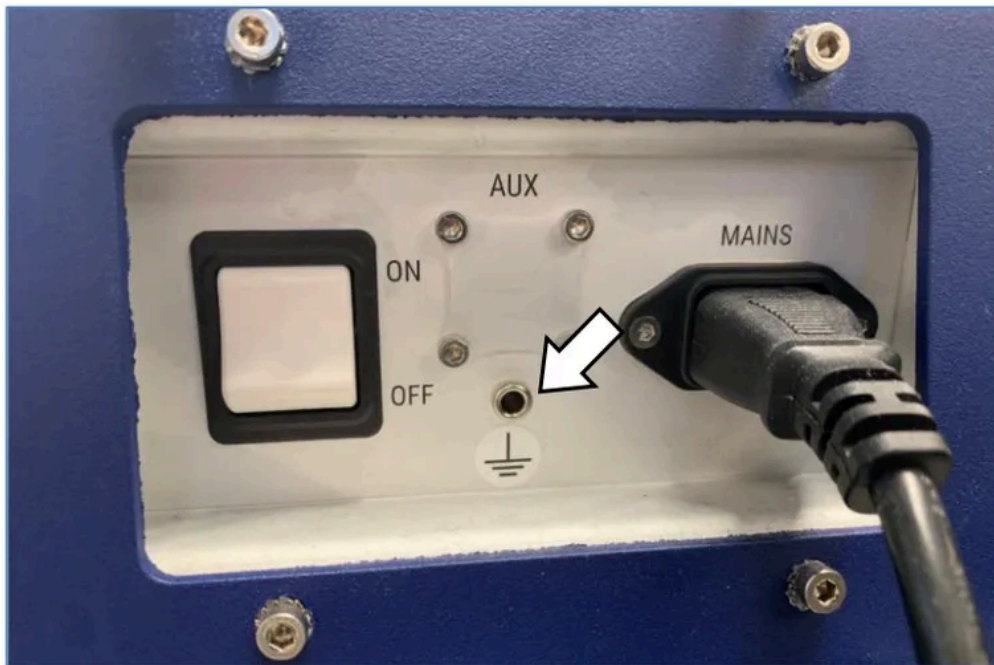

Fig. 3 Functional Earth connection point-on rear side
- On the rear panel with the Power Switch and Power Connector (Fig. 3)